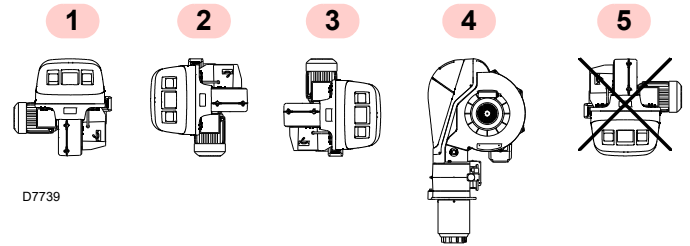

Fig. 10
- The burner is set up to operate only in positions **1**, **2**, **3** and **4** (Fig. 10).